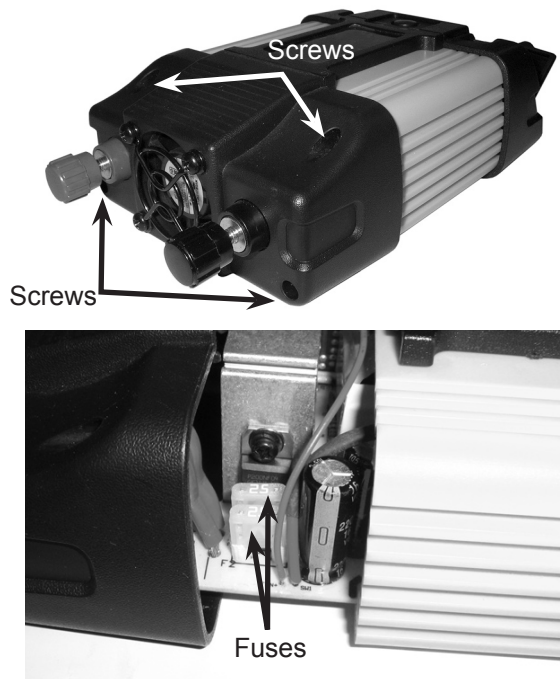

Figure 2
- c. Slowly slide off The Cover far enough to reveal the Fuses - See Figure 2. CAUTION! Do not over extend the Cover.